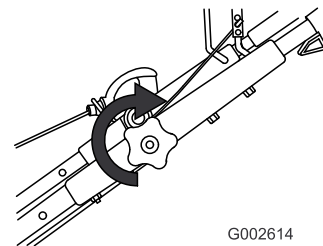

Figure 18
3. Tighten the upper handle knob as tight as you can (Figure 18).